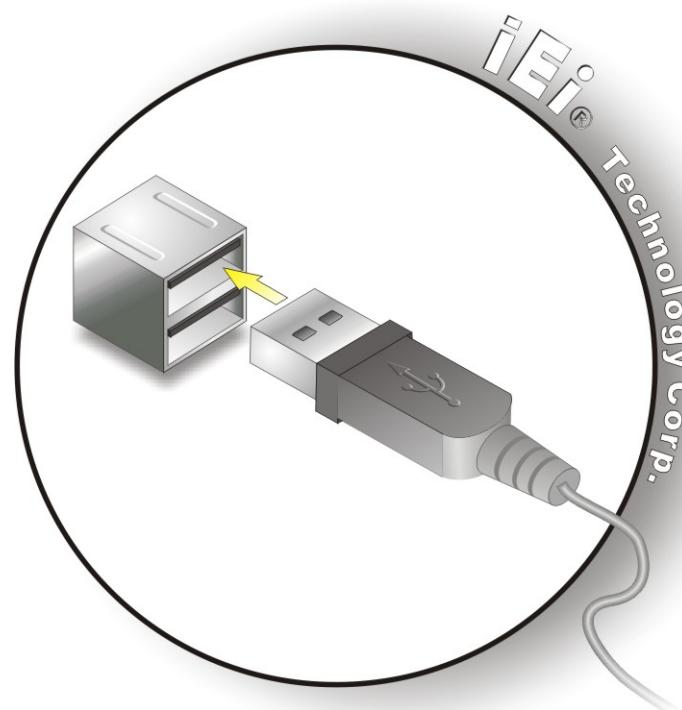

Figure 4-16: USB Connector
Step 2: Insert a USB Series "A" plug. Insert the USB Series "A" plug of a device into the USB Series "A" receptacle on the external peripheral interface. See Figure 4-16.